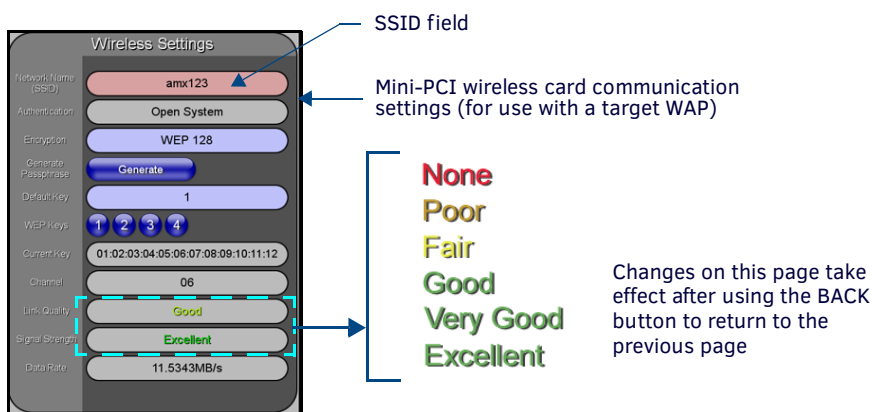

FIG. 78 Wireless Settings page (Wireless Settings section)
6. Locate the Wireless Settings section of the Wireless Settings page (FIG. 78).
9. Toggle the **Encryption** field (FIG. 78) until it reads **WEP64** or **WEP128**. The 64/128 selection reflects the bit-level of encryption security. This WEP encryption level must match the encryption level being used on the WAP.
13. Write down this Current Key string value for later entry into your WAP's *WEP Key* field (*typically entered without colons*) and into the communicating panel's *Current Key* field (FIG. 78).